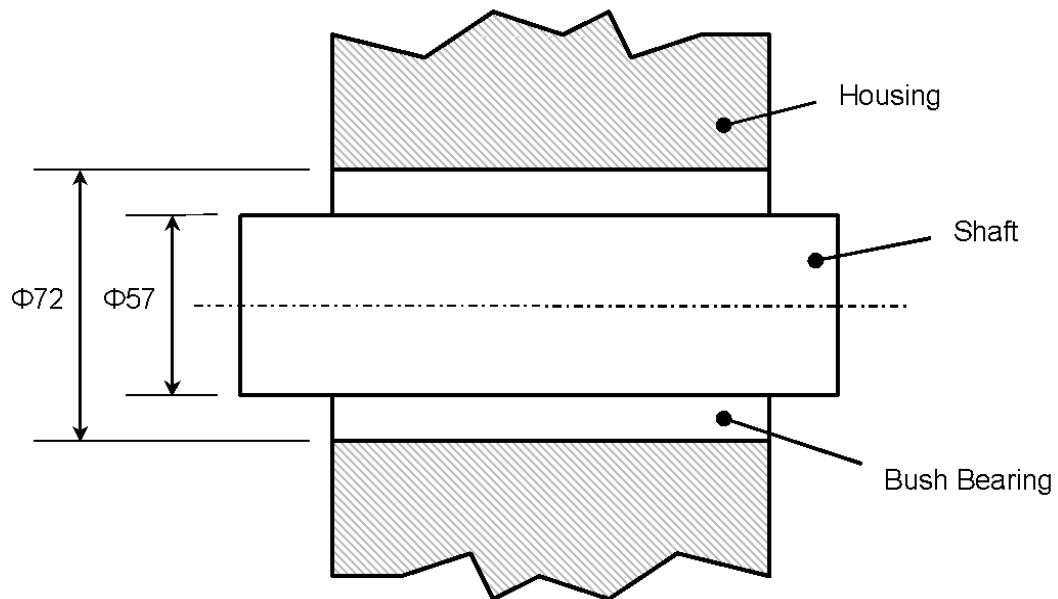

Figure Q5: Cross-sectional view of a shaft, bush bearing and housing assembly
5. A cross-sectional view of a shaft, bush bearing and housing assembly is shown in the **figure Q5** below. In this arrangement, the shaft is designed for a "close running" fit within the bush bearing, while the bush bearing is installed as a "press fit" within the housing.